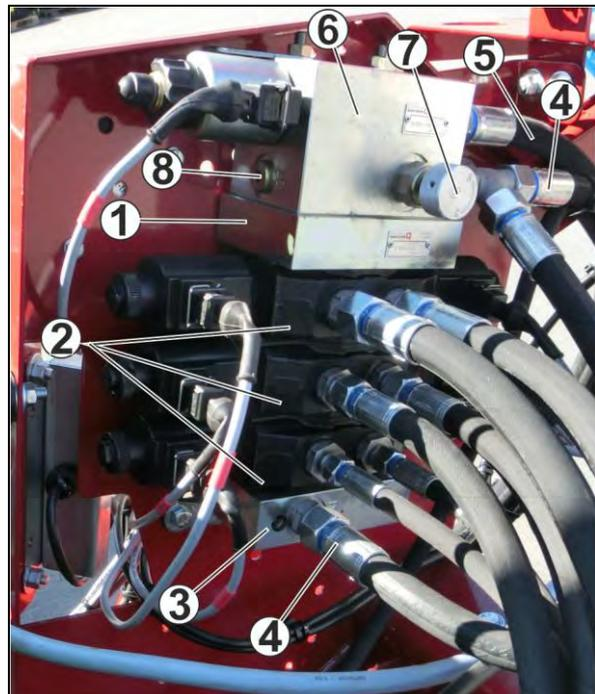

Fig. 69
1. Screw the load-sensing control line (2) into the connecting aperture (Fig. 69/8) of the electro-hydraulic control block.
- 2.1 screw the load-sensing screw (Fig. 69/7) in as far as it will go.
3. Connect the load-sensing control line (2) to the load-sensing connector of the tractor.
4. Connect the hydraulic connector "Return line" (4) to a free return port of the tractor.
5. Connect the hydraulic connector "Flow line" (5) directly to the hydraulic pump of the tractor.